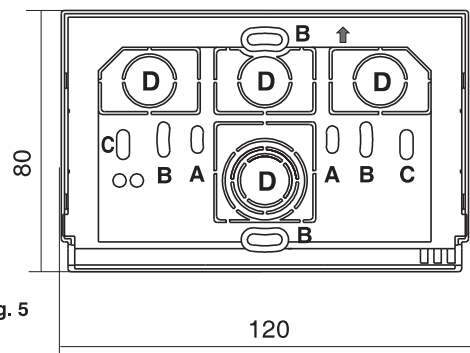

Fig. 5
- Fasten the base of the chronothermostat to the recessed box (or to the wall) via the paired holes (fig. 5):
**N.B.:** fig.5, "D" = removable areas for wires to be inserted (only flexible ones)